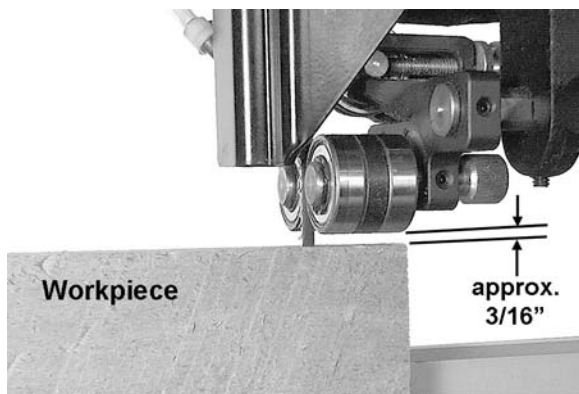

Figure 32
2. Adjust blade guide assembly so that the guide bearings are just above the workpiece (about 3/16") allowing minimum exposure to the blade. See Figure 32.